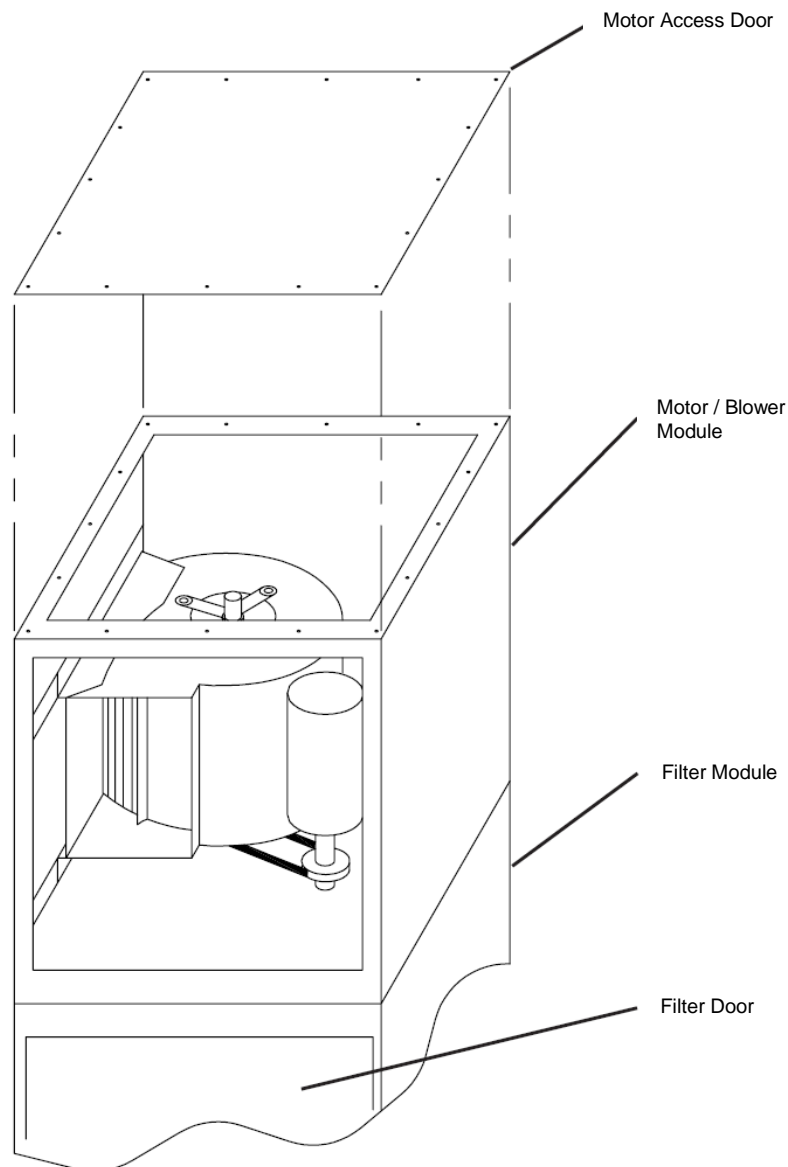

FIG. 2
4. Rotate the motor/blower module 90 deg. (FIG. 2).